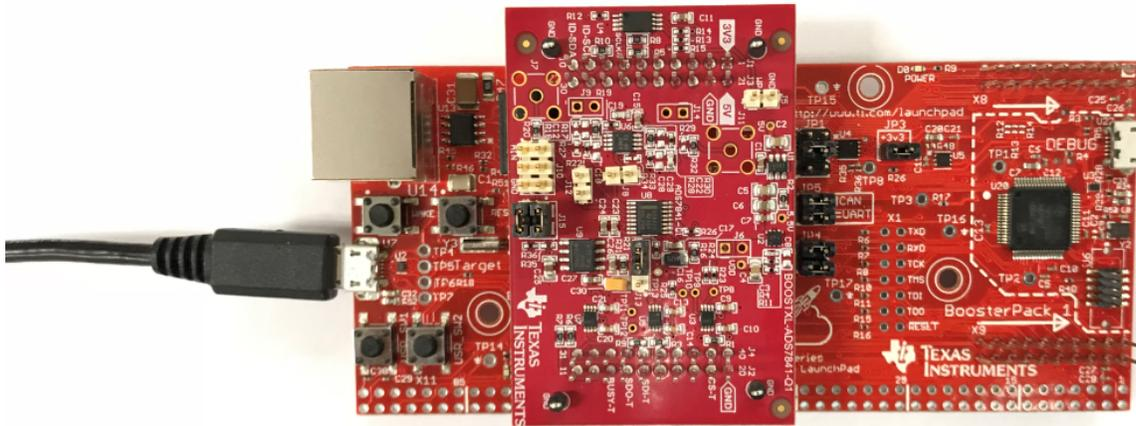

Figure 10. BOOSTXL-ADS7841-Q1EVM stacked on TM4C1294 LaunchPad™
5. **Figure 10** shows the assembled BOOSTXL-ADS7841-Q1EVM and TM4C1294 LaunchPad™ configuration.